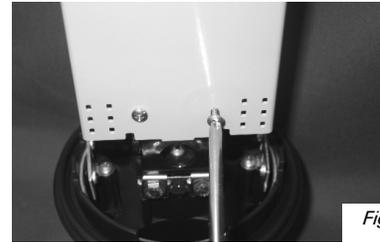

Fig. 2
1. Holding the basket open side up (like the splice trays), insert the tab of the basket through the slot in the tray bracket. (Figure 2)